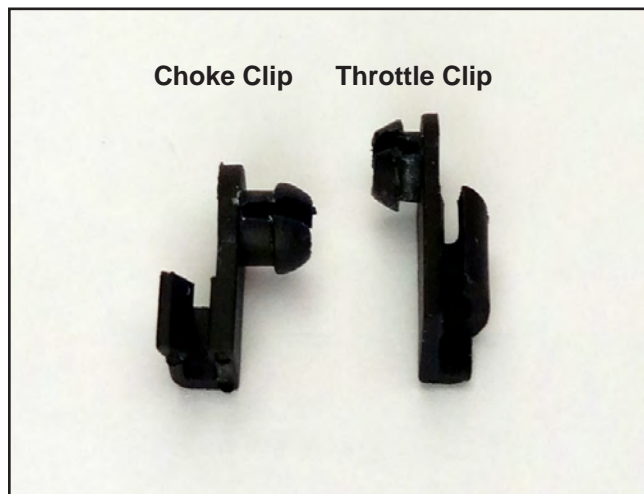

Figure 10
3. Unhook the lower end and remove the link (Figure 10).